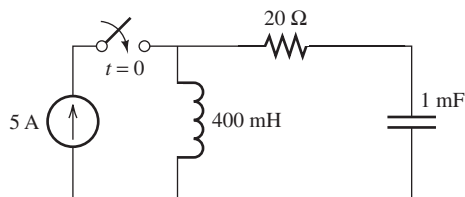

FIGURE P5.45 Circuit for Problem 5.45.
- 5.45 (H) Given the circuit in Figure P5.45. The switch closes at $t = 0$, find $v_C(t)$.